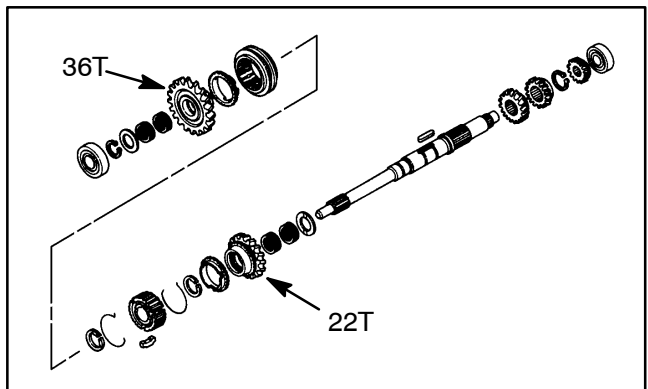

Figure 55
- C. Inspect I.D. of synchro gears on main shaft for excessive wear or scoring (Fig. 55). If synchro gear has the following I.D., replace the synchro gear: